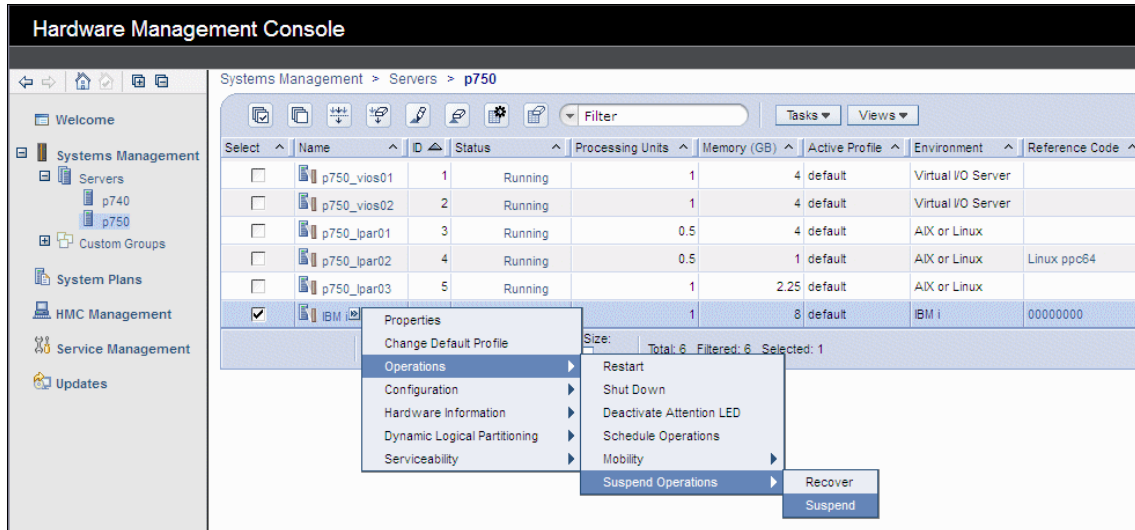

Figure 13-11 Selecting the Suspend operation
2. Click **Operation** → **Suspend Operations** → **Suspend** as shown in Figure 13-11.